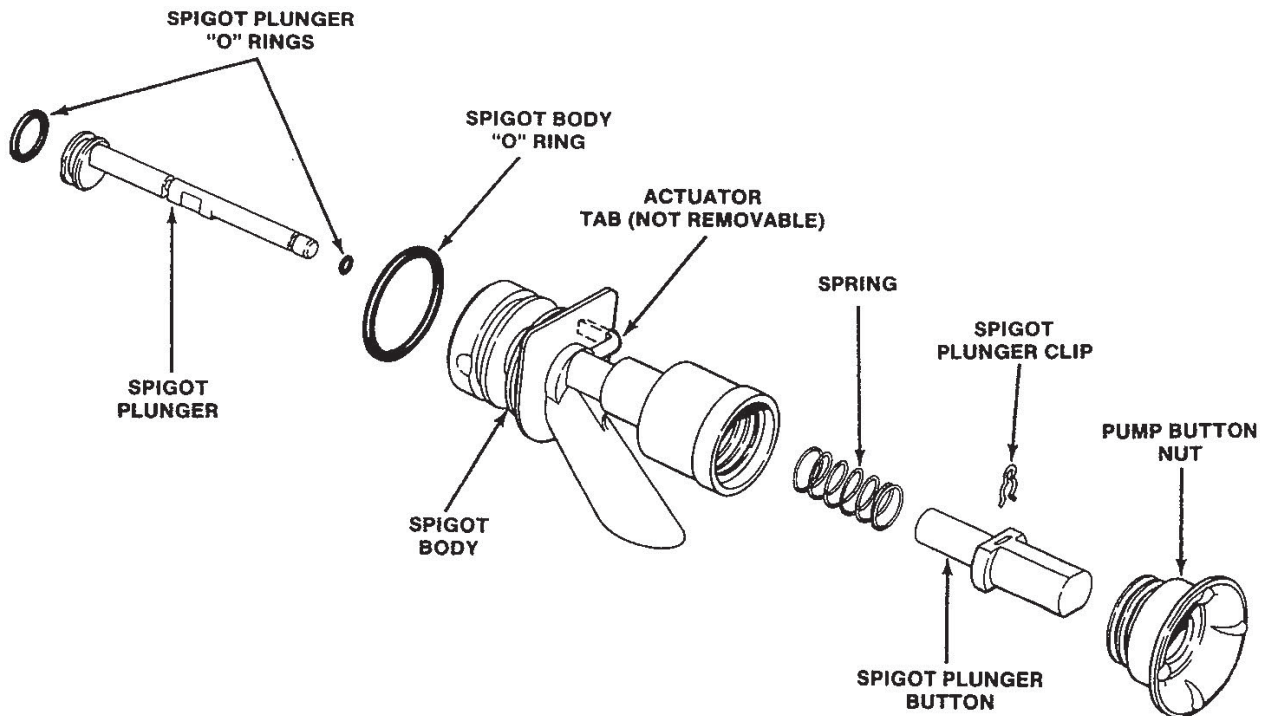

Figure 31. Exploded View of Spigot Assembly
- C. Assemble the spigot assembly as follows: See Figure 31 for an exploded view of the spigot assembly.